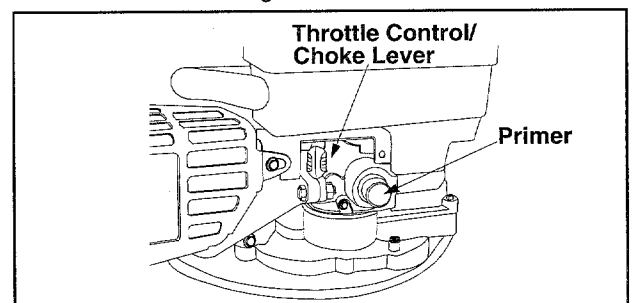

Figure 7
- Depress the primer bulb firmly with your thumb five times. Wait about two seconds between each push. Do not use the primer to restart a warm engine after a short shut-down. See Figure 7.
- Move throttle control / choke lever on engine to CHOKE position. (A warm engine may not require choking.) See Figure 7.